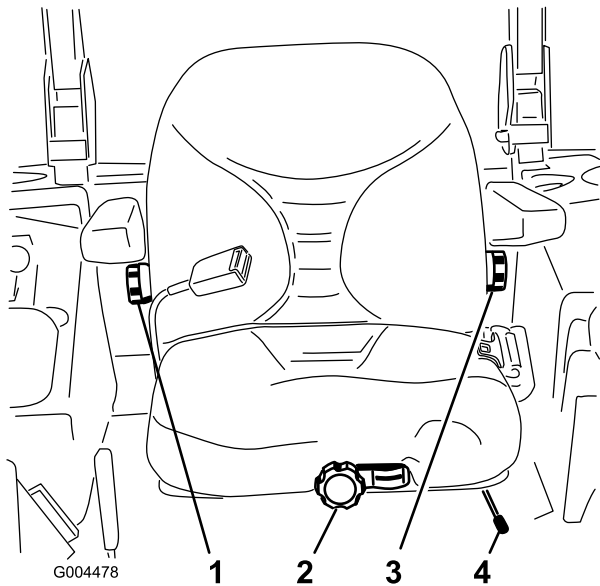

Figure 46
1. To adjust, move the lever sideways to unlock the seat (Figure 46).
Without sitting on the seat, turn the knob in front either direction to provide the best comfort (Figure 46).
To adjust it, turn the knob, under the right-side arm rest, in either direction to provide the best comfort (Figure 46).
To adjust it, turn the knob, under the left-side arm rest, in either direction to provide the best comfort (Figure 46).